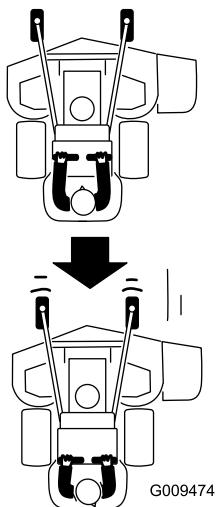

Figure 23
2. Slowly pull the motion control levers rearward (Figure 23).